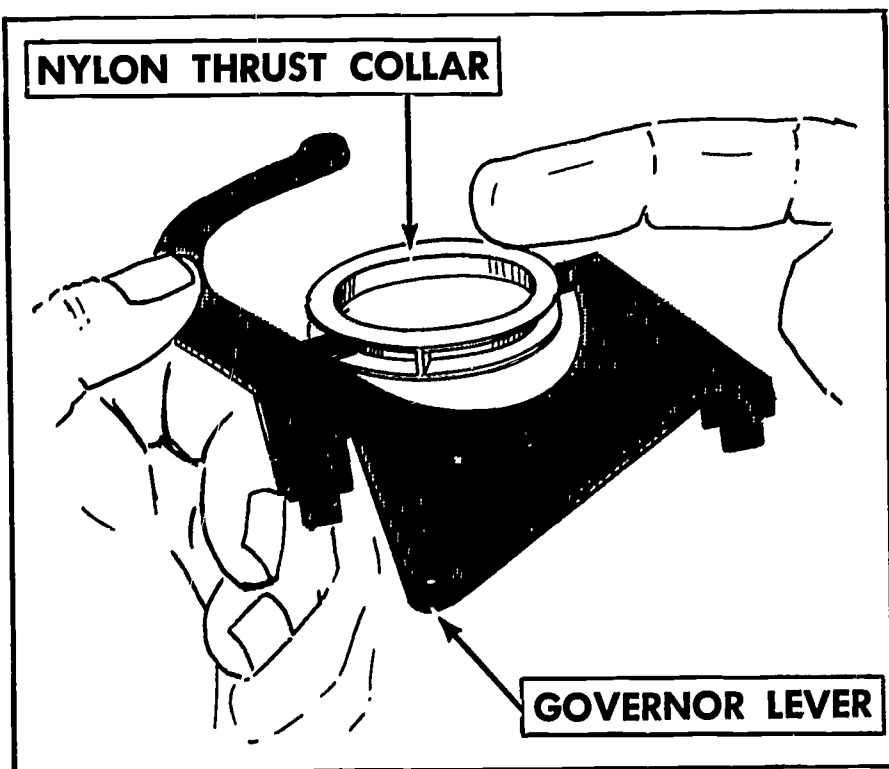

FIGURE 170. Removing the governor arm and nylon thrust collar.
4. *Remove the nylon thrust collar and governor lever from the crankshaft (Figure 170).*